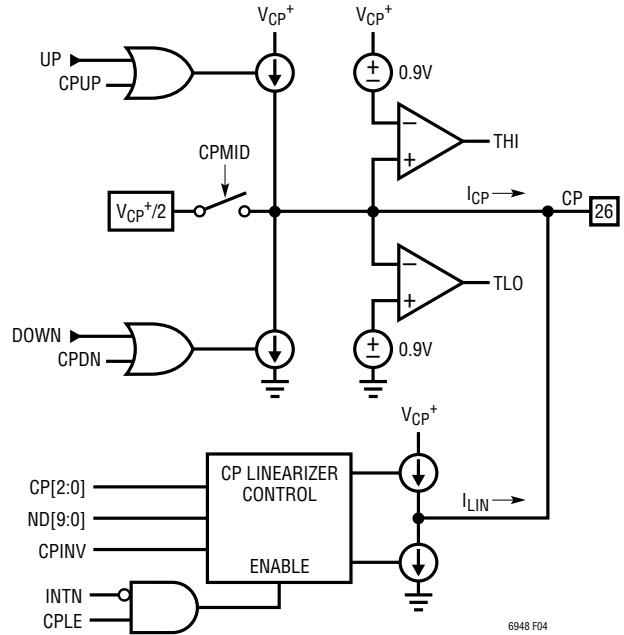

Figure 4. Simplified Charge Pump Schematic
The charge pump, controlled by the PFD, forces sink (DOWN) or source (UP) current pulses onto the CP pin, which should be connected to an appropriate loop filter. See Figure 4 for a simplified schematic of the charge pump.
The CPCHI and CPCLO bits found in register h0D enable the high and low voltage clamps, respectively. When CPCHI is enabled and the CP pin voltage exceeds approximately $V_{CP^+} - 0.9V$, the THI status flag is set, and the charge pump sourcing current is disabled. Alternately, when CPCLO is enabled and the CP pin voltage is less than approximately 0.9V, the TLO status flag is set, and the charge pump sinking current is disabled. See Figure 4 for a simplified schematic.